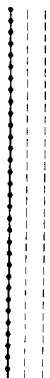

Fig. 29
**STITCHING:** Straight stitching at the extreme left-hand position of the needle. As shown in Fig. 29.